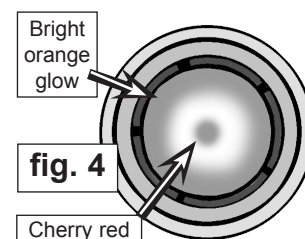

fig. 4
- a) NORMAL CHERRY RED IN THE MIDDLE PROGRESSING TO AN ORANGE ON THE OUTSIDE RIM OF THE DOME (see fig.4).